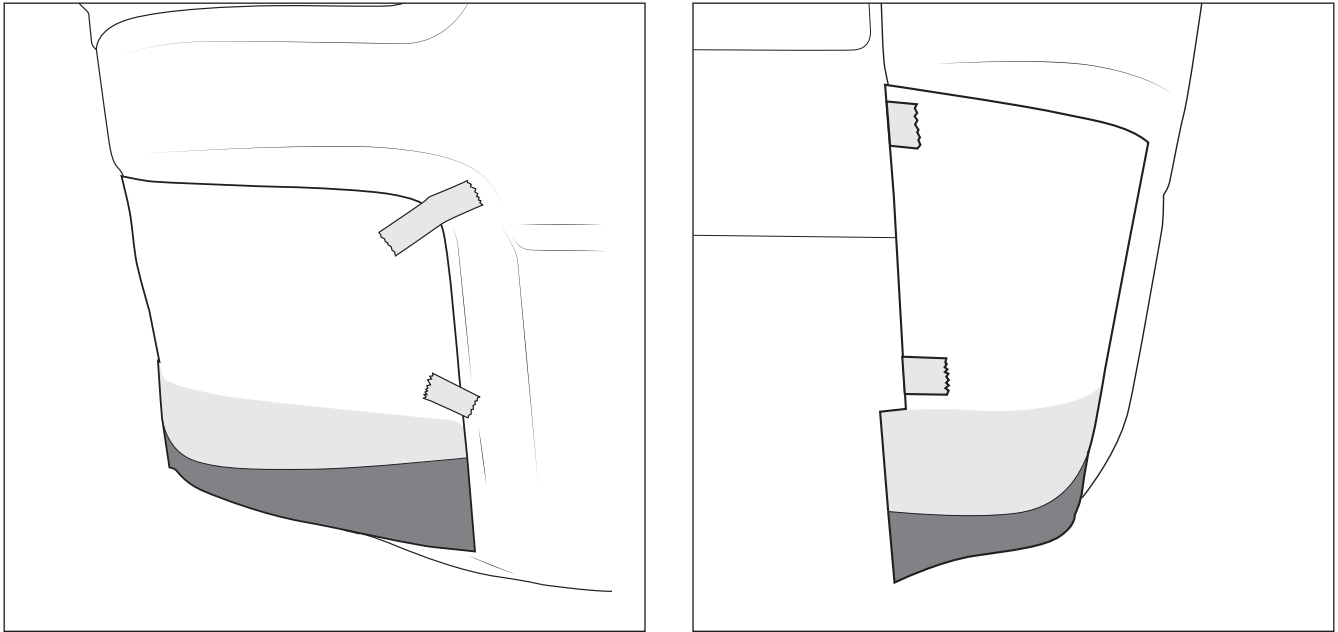

Figure 5
2. Tape upper vinyl and carrier into place, using the body line to align the carrier (fig. 5).